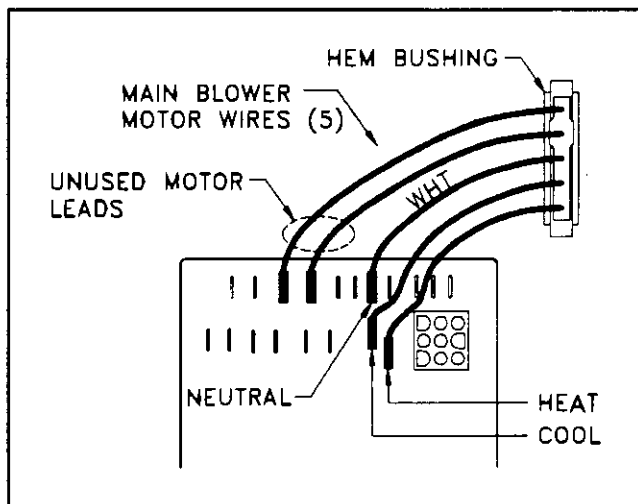

Figure 31. Main Blower Speed Selection.
3. To change cooling speed, move the desired motor lead to the terminal marked 'COOL' on the Control Module. See Figure 31. Initial factory setting for cooling is high speed (black wire).
4. To change the heating speed, move the desired motor lead to the terminal marked 'HEAT' on the Control Module. See Figure 31. Factory setting for heating is listed in Table 10. Heating speed should not be reduced below factory setting.
5. Connect the two unused motor leads to the terminals marked "UNUSED MOTOR LEADS" on the control Module. See Figure 31.